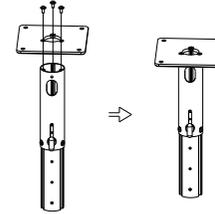
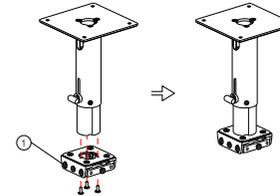

Figure 1-4
Figure 1-8
1 Step 1: open the package, take out the upper top plate, and pipe components, screw out the three screws on the pipe, align the round pipe with the upper top plate (pay attention to the direction prompt), and then screw in the screws for fastening connection. Refer figure 1-4
Step 4-1: align the assembly ① with the assembly in Figure 1-4, and screw in the screw (Refer figure 1-8)